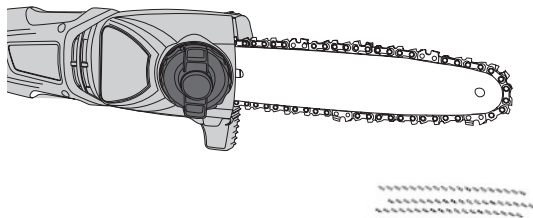

Fig. 15
1. Make sure the guide bar (13) and the saw chain (14) are in place when you check the oil delivery.
2. Start the product; keep it running at no load and check if the chain oil is delivered as shown in the figure (Fig.15,16).